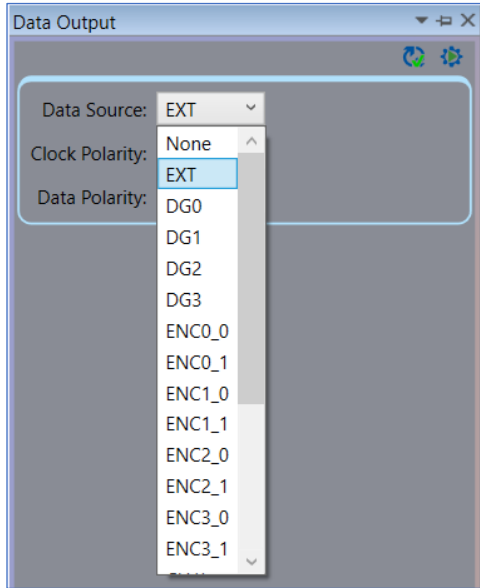

Figure 143: Data Source Drop Down Menu
- Data Source – Select from data sources from Data Generators 0-3, both sub-channels for Encoders 0-3, External, any of the eight analyzer inputs, or None, as shown in Figure 143